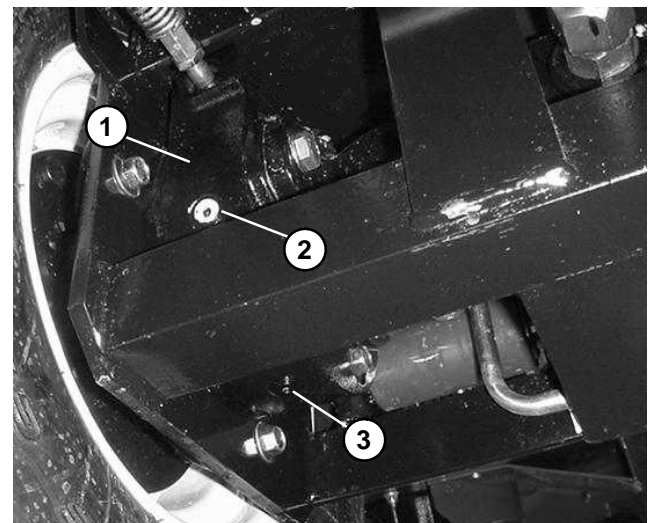

Figure 3
8. Make sure drain plug is installed in bottom of brake assembly (Fig. 3). Fill planetary wheel drive/brake assembly with SAE 85W–140 gear lube (see Operator's Manual). Capacity is approximately 16 oz. (.47 l) per wheel.